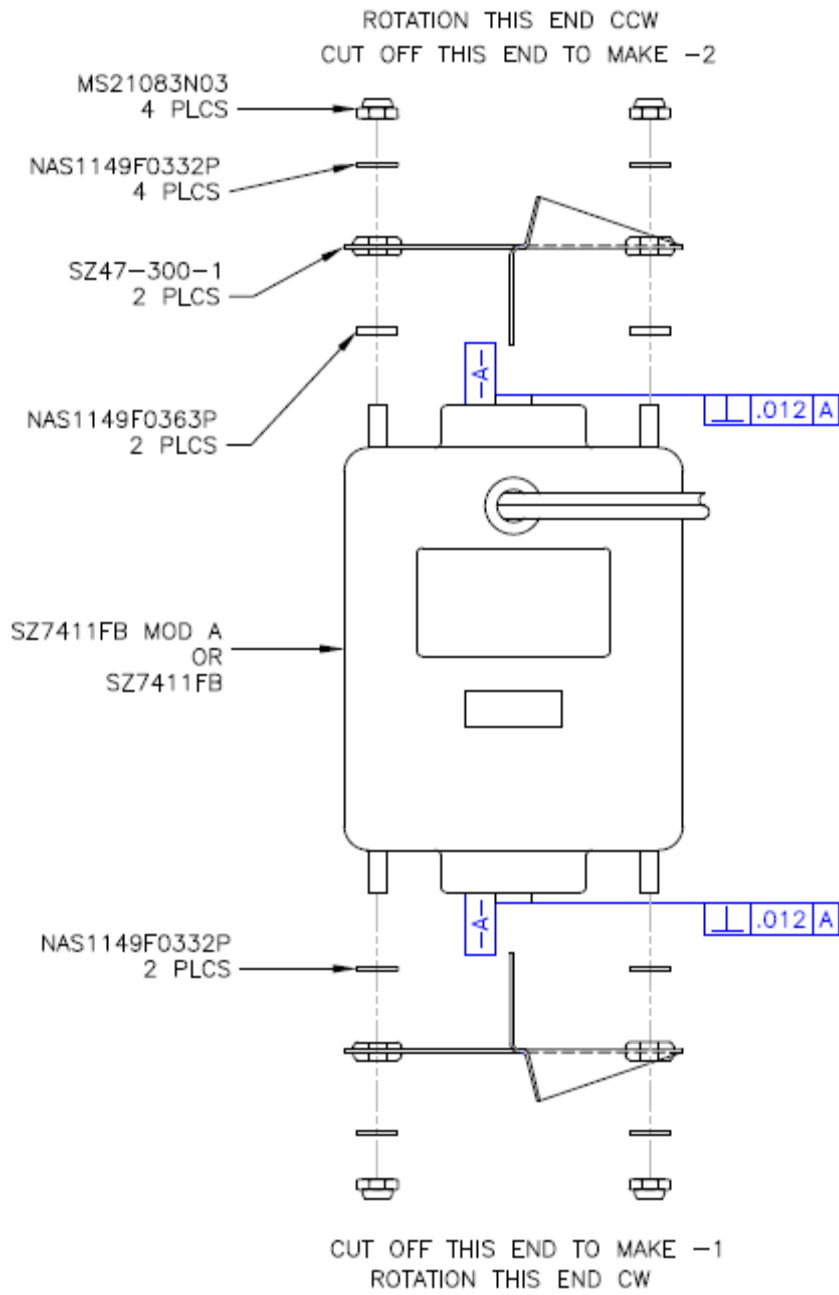

FIG. 1
- 9.4 After the opposite shaft has been removed place 1 each Motor Support SZ47-300-1 on each end of the motor. Secure as shown on parts break down, see FIG. 1.